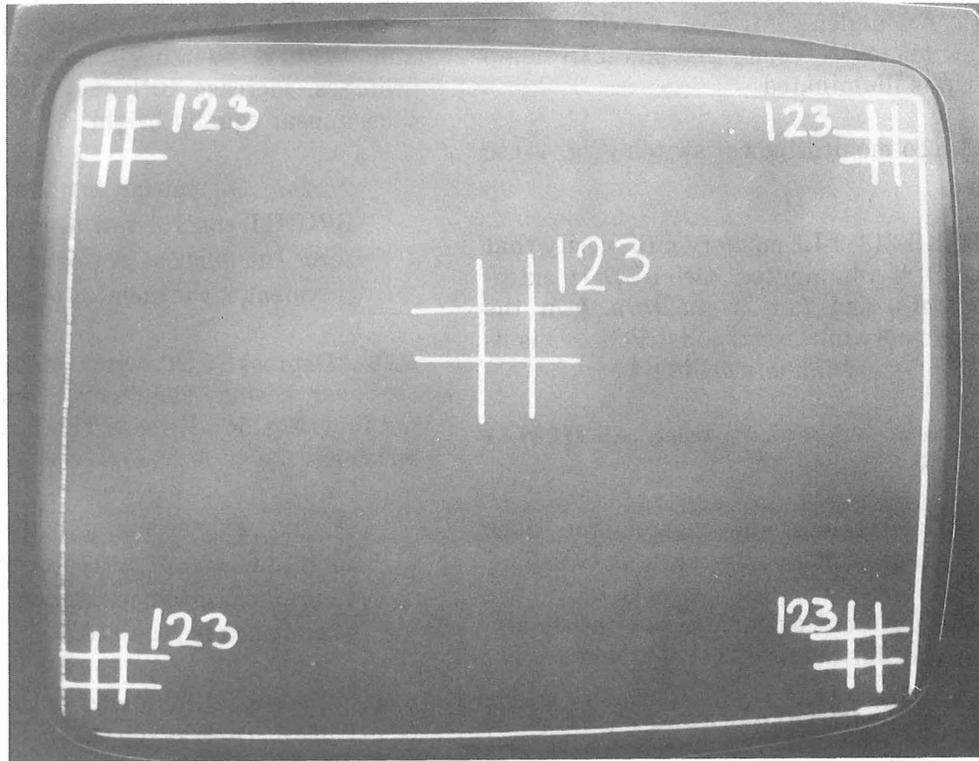

Fig. 53—Test Pattern on Video Monitor
6.37 Write lines and numbers at the center and near the corners of blackboard (Fig. 53). Verify that *all writing* is visible on monitor display. If necessary, readjust monitor size controls. Erase blackboard and depress ON/CLEAR switch on control unit.